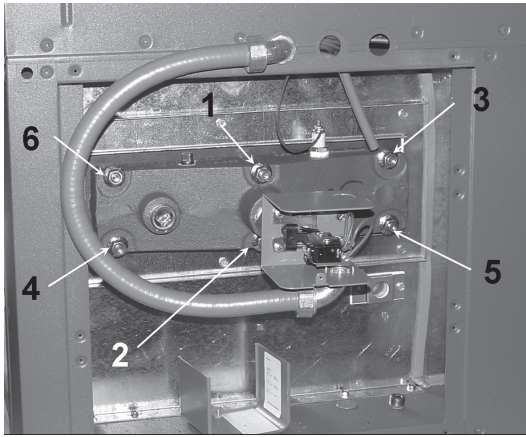

Figure 8. Torque Sequence
12. Slowly tighten the flange nuts, starting from the center nut (number 1) in **Figure 8** and working sequentially around the header as indicated. Torque all nuts to 25 ft/lb. DO NOT OVER-TIGHTEN.